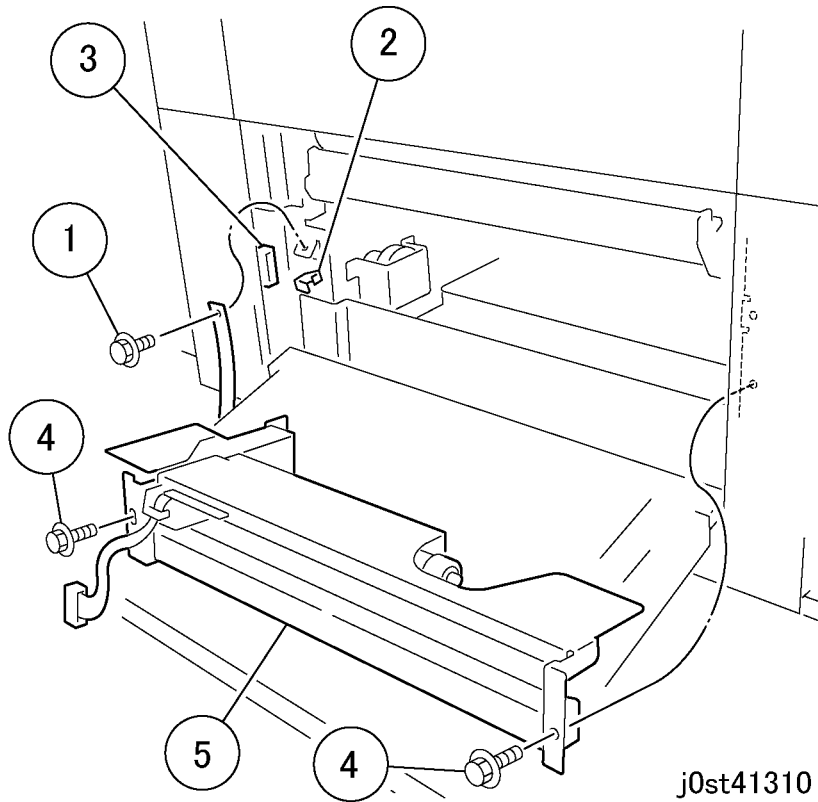

Figure 3 Removing the Tray 2 Assembly
5. Remove the Tray 2 Feeder Assembly. (Figure 3)